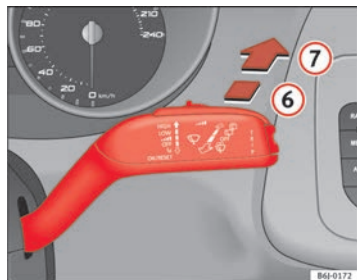

Fig. 64 Windscreen wiper and windscreen wash lever: rear window wiper
- Press the lever forwards to position **6** ⇒ **fig. 64**. The wiper will wipe the window approximately every 6 seconds.
- Press the lever fully forwards to position **7** ⇒ **fig. 64**. The rear wiper and washer operate at the same time. The windscreen wash system will function as long as you hold the lever in this position.